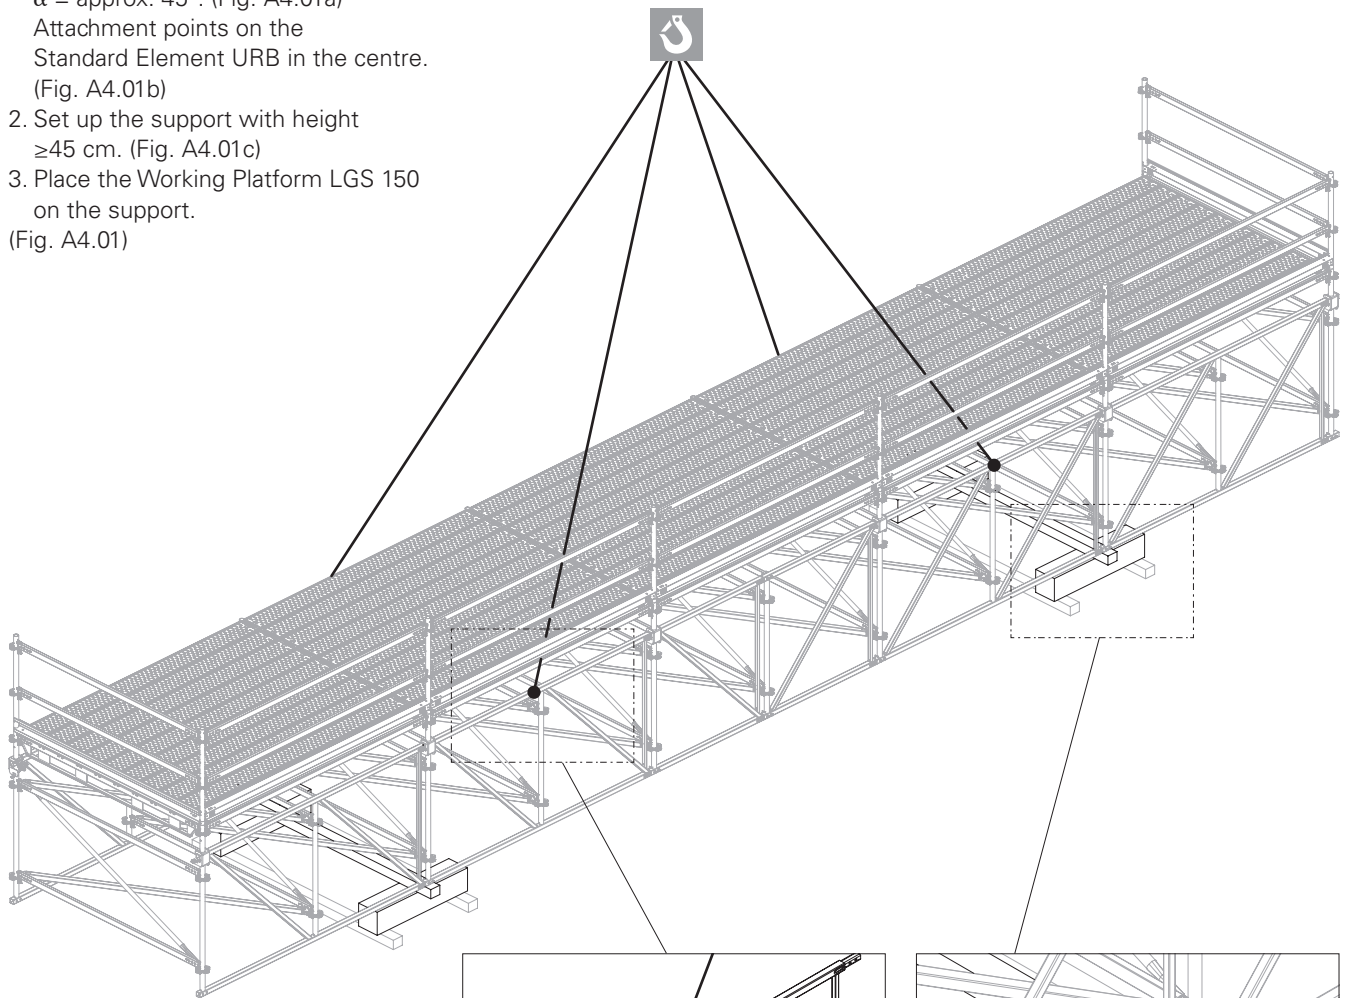

Fig. A4.01
3. Place the Working Platform LGS 150 on the support. (Fig. A4.01)